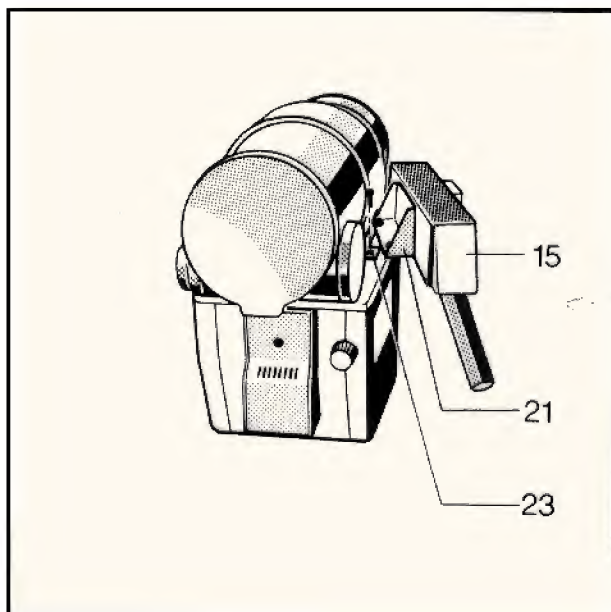

Fig. 10
Mount the Z-shaped bracket (Fig. 10/item 23) to flange. Fasten control handle to Z-shaped bracket (item 21).